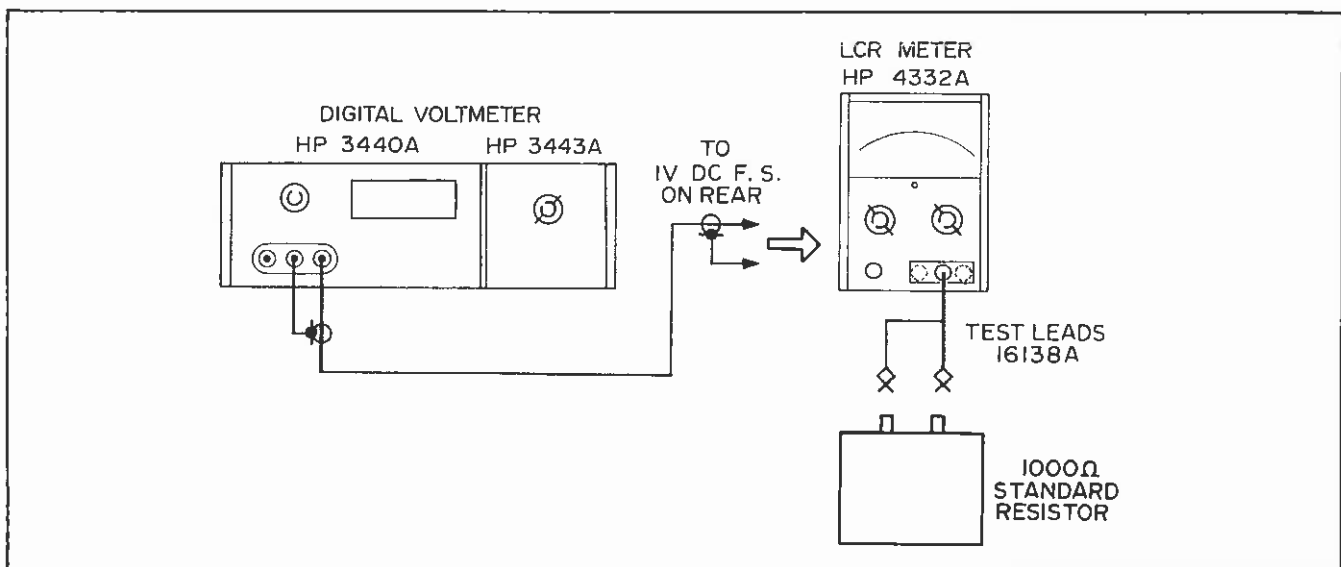

Figure 5-4. Resistance Measurement Adjustment
- a. Connect equipment as shown in Figure 5-4.